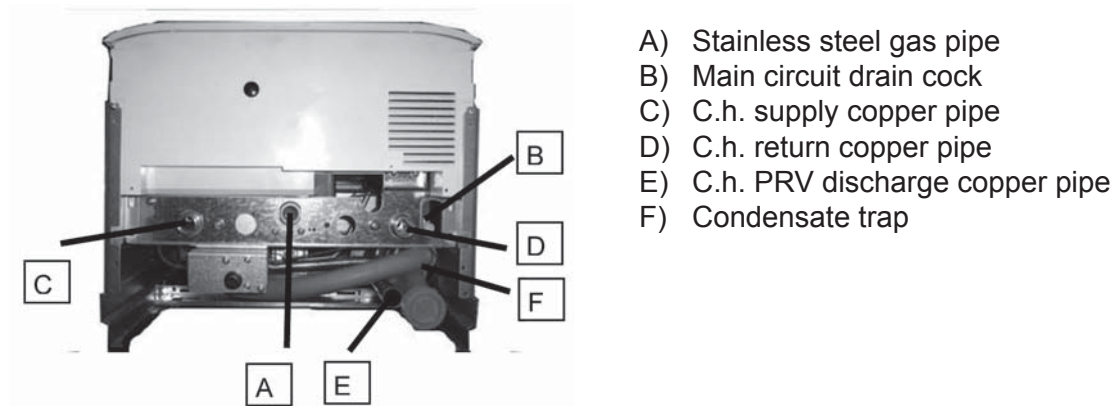

Figure 10.1
The SAVIO boiler is supplied with a 3/4" stainless steel gas pipe (A in figure 10.1), 2 - 3/4" copper pipe (C,D in figure 10.1), located in a plastic bag in the boiler package.
- Remove the protective caps off boiler connections (Figure 10.1).
- Attach the supplied components to the boiler connections (see Figures 10.1). Be sure to use the proper gaskets for the pipe connections.